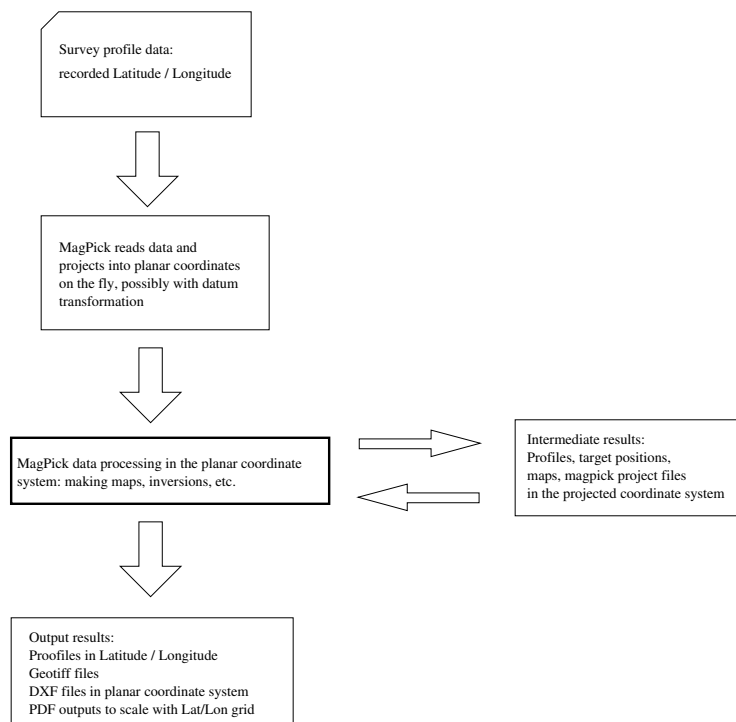

Figure 69: MagPick coordinate transformation data flow. Lat/Lon data are projected into planar coordinate system and then back to Lat/Lon on export
Figure 69 shows coordinate transformation flow in MagPick. Original data recorded in Lat / Lon are projected during reading of the profiles recorded in the field⁷; they are presented as planar during data processing. Planar data can be saved / loaded from intermediate files, including MagPick project file. The processing results, including modified profile data and target worksheets, can be saved in latitude and longitude.
2. Internal, or **+to**, or UTM (State Plane, etc), and false Northing and Easting. This projection is used to present data in MagPick, compute distances, do inversions etc. It corresponds to the middle part of figure 69.